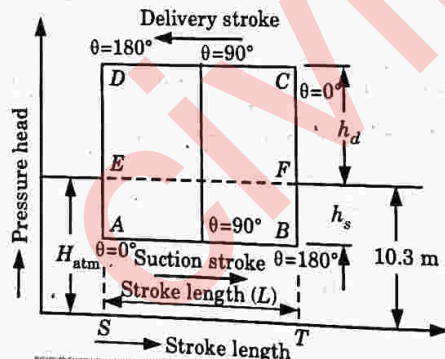

Fig. 4.10.1. Ideal indicator diagram.
2. As shown in Fig. 4.10.1, different notations are taken as :